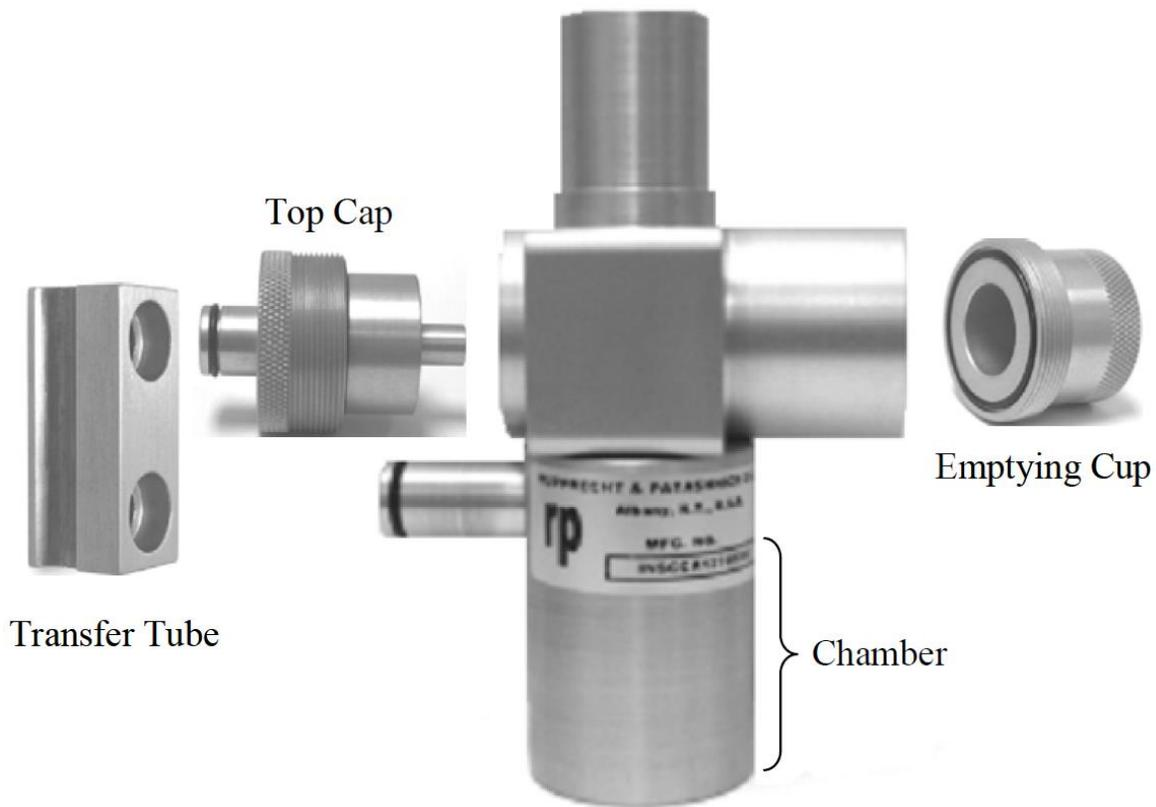

Figure 6-5: Exploded view of VSCC components (Vaughn, 2009)
2. Remove the top cap and the emptying cup as shown in Figure 6-5.